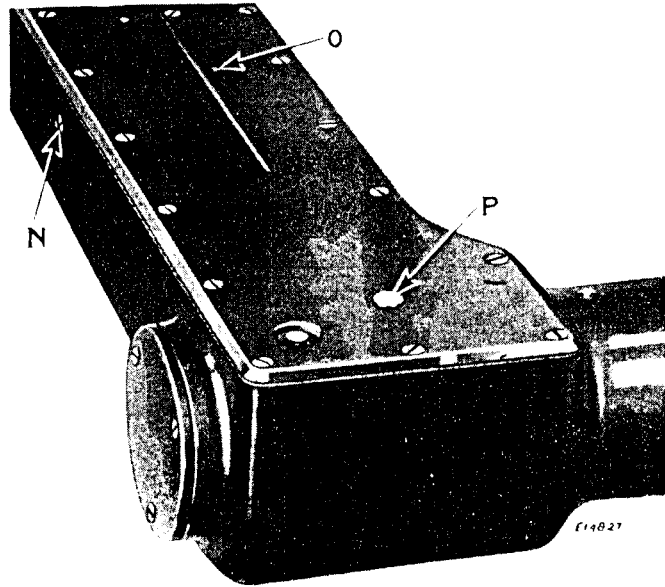

Fig. 16. Stitch Regulator Button
To increase the length of stitch, press the button (P, Fig. 16) in the bed and at the same time turn the balance wheel over to-
The feed dog is usually set so that a full tooth appears above the upper surface of the throat plate when the feed dog is at its highest point. To make this adjustment, loosen the set screw (O, Fig. 16) and with a screwdriver turn the eccentric stud (N, Fig. 16) until the feed dog reaches the desired height, then tighten the set screw (O).